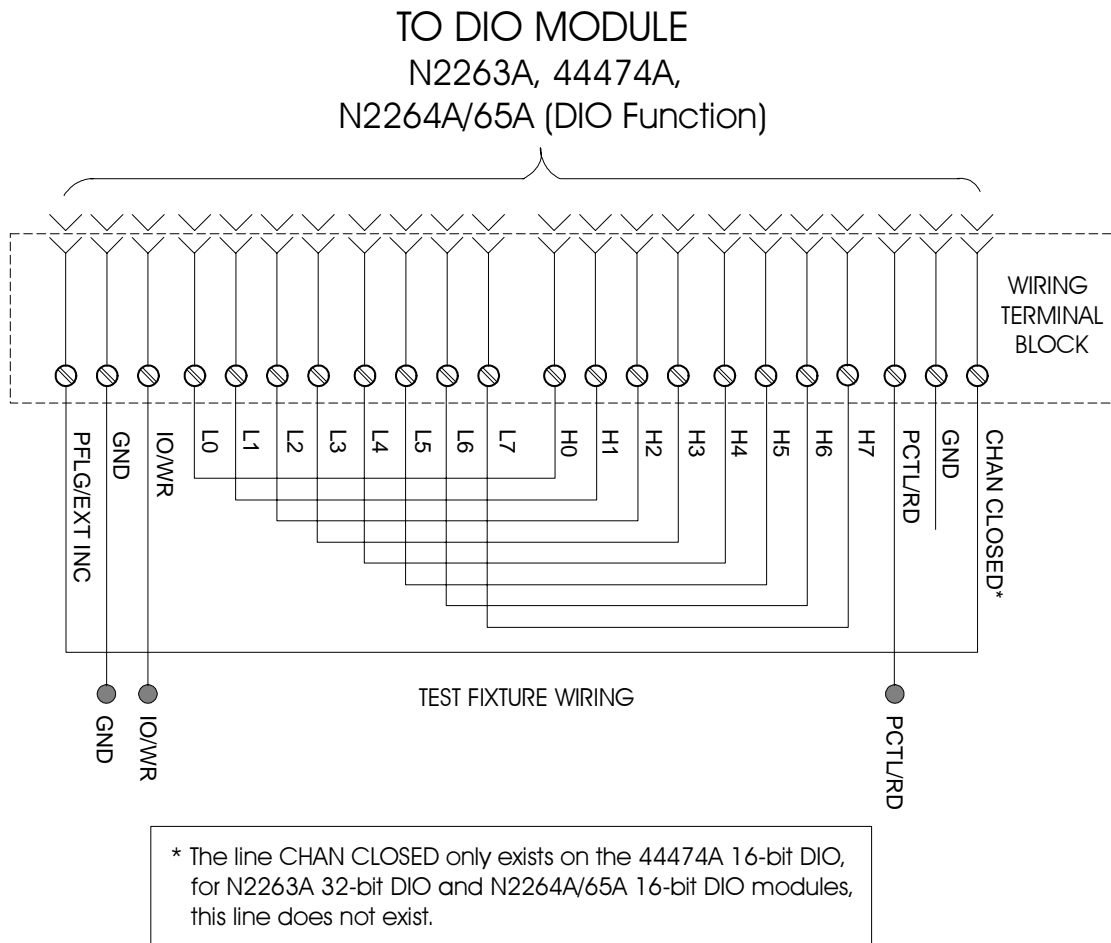

Figure 4-4. DIO Modules Test Fixture
removable wiring terminal block as shown in Figure 4-4.
2. Connect the Multimeter between the GND and the PCTL/RD (or IO/WR) terminals on the test fixture (Figure 4-4 on Page 60) to measure dc voltage. The PCTL/RD (or IO/WR) line should be in the high state (between +2.4 V dc and +5 Vdc);